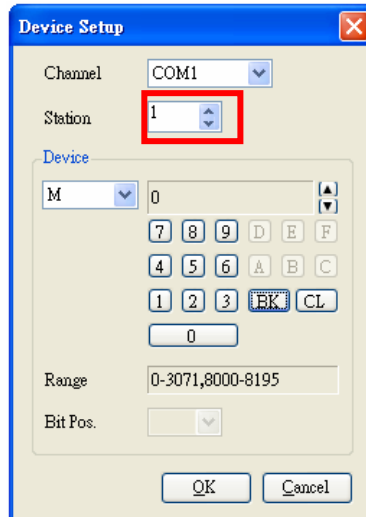

Figure 2-1-36: Set device office number
- The default office number is 1 in PLC, so the device office number in the edit screen shall be set to 1 in order to communicate, as shown in figure 2-1-36.